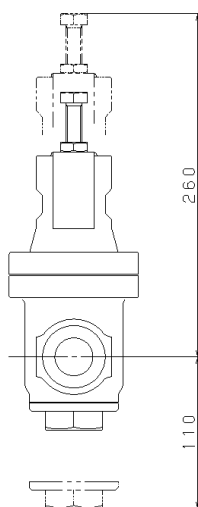

Fig.1
- (11) Install the valve perpendicularly to horizontal lines.
- (12) Provide the by-pass line. (See 5.1 Example of piping)
- (13) Set pressure of safety relief valve should be higher than the pressure reducing valve's pressure.
- (14) When the reducing ratio is large, install a reducer to keep the flow velocity in the pipe 30 m/s.
- (15) Provide space on the top and bottom of the valve so that the valve can be easily disassembled and inspected. (See **Fig.1**)